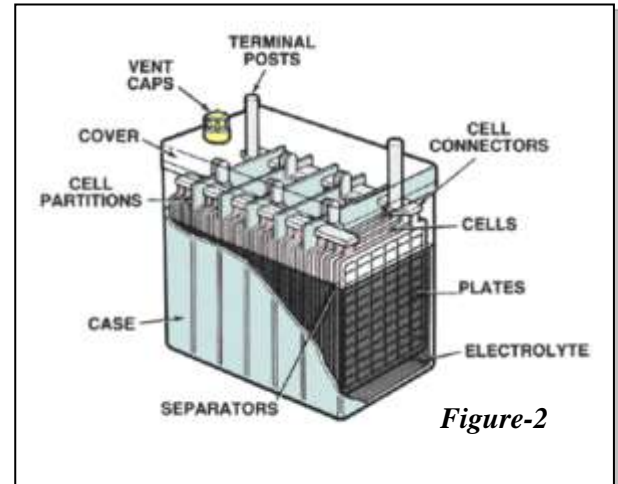

Figure-2
The size of plates and quantity of electrolyte decides battery capacity, which is measured in "Ampere Hours" (AH). For example, a 12V 180AH battery can supply 180 ampere of current for 1 hour or 90 ampere for 2 hours or 45 ampere for 4 hours. Figure-2 shows the construction of a standard 12V battery. Actually, the